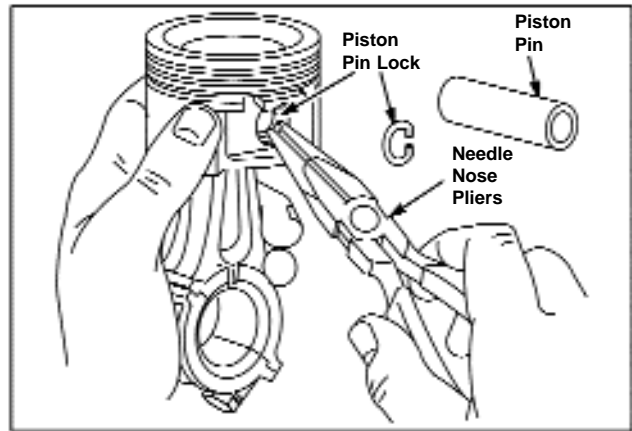

Figure 110 - Removing Rod, Typical
1. Remove piston pin lock with thin nose pliers, Figure 110.